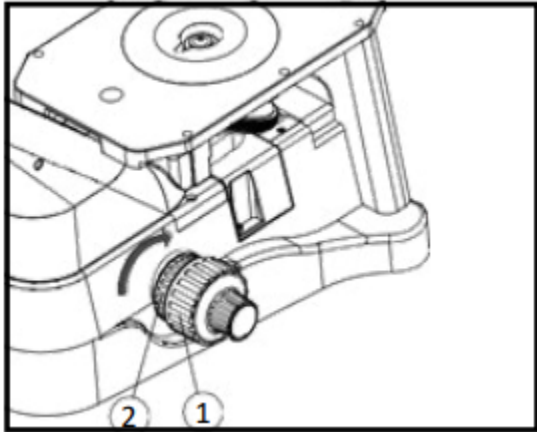

Fig. 6
Objective Assembly (Fig 6,7)
1. Rotate the coarse focus knob (1), until the objective nosepiece is at the lowest position. (Fig 6)